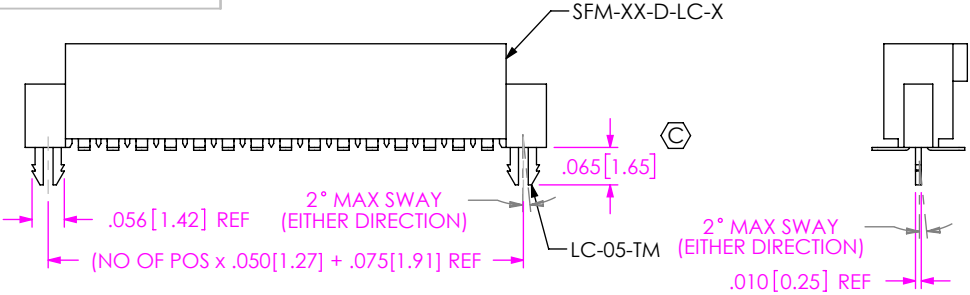

FIG 6
-LC: LOCKING CLIP (SEE FIG 6, SHT 3 & NOTE 8)